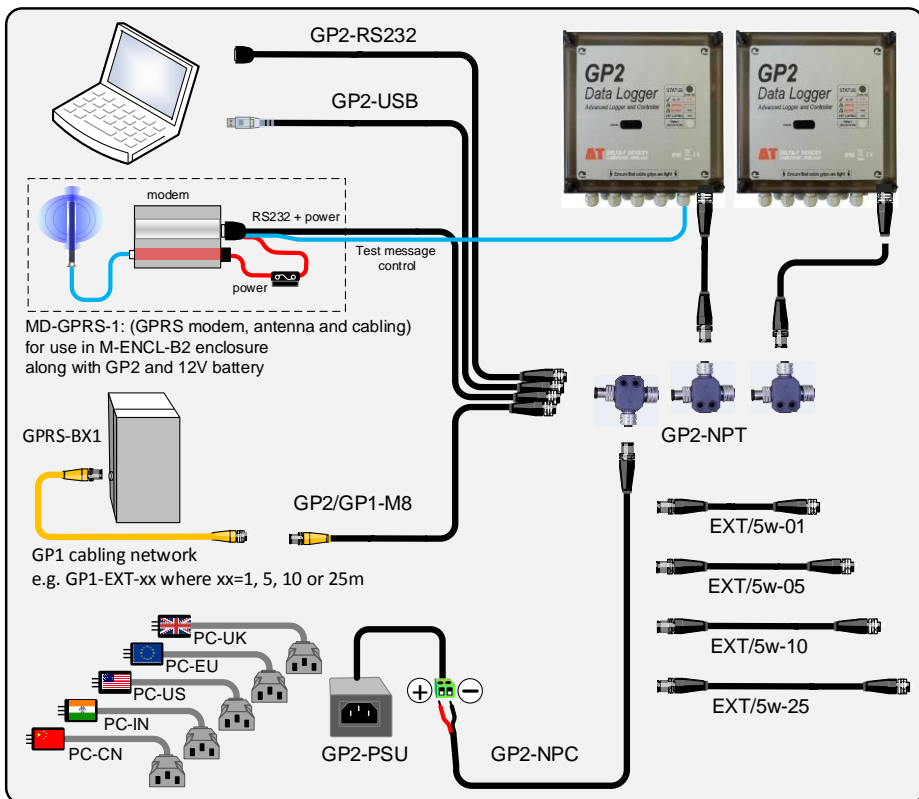

Figure A5 GP2 Network Cabling options
- A mini USB cable (not shown in Fig A5) - is required in order to configure the modem at the logger end. This is supplied as standard with the Delta-T GPRS modem solutions i.e. GPRS-BX1 and MD-GPRS-1.
1. Connect your PC to the GP2 network, via the GP2 USB cable or GP2-RS232 cable, or, if using a modem, via the cabling indicated in Figure A5..